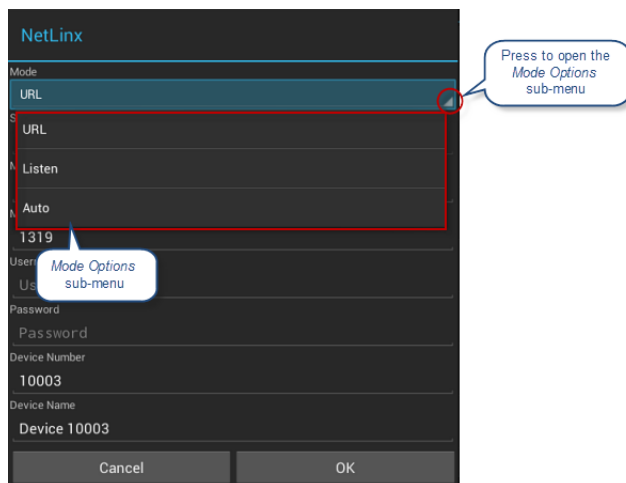

FIG. 65 NetLinX Options window - Mode menu
1. In the *NetLinX* page, press **Mode** to open NetLinX Options window (FIG. 65):